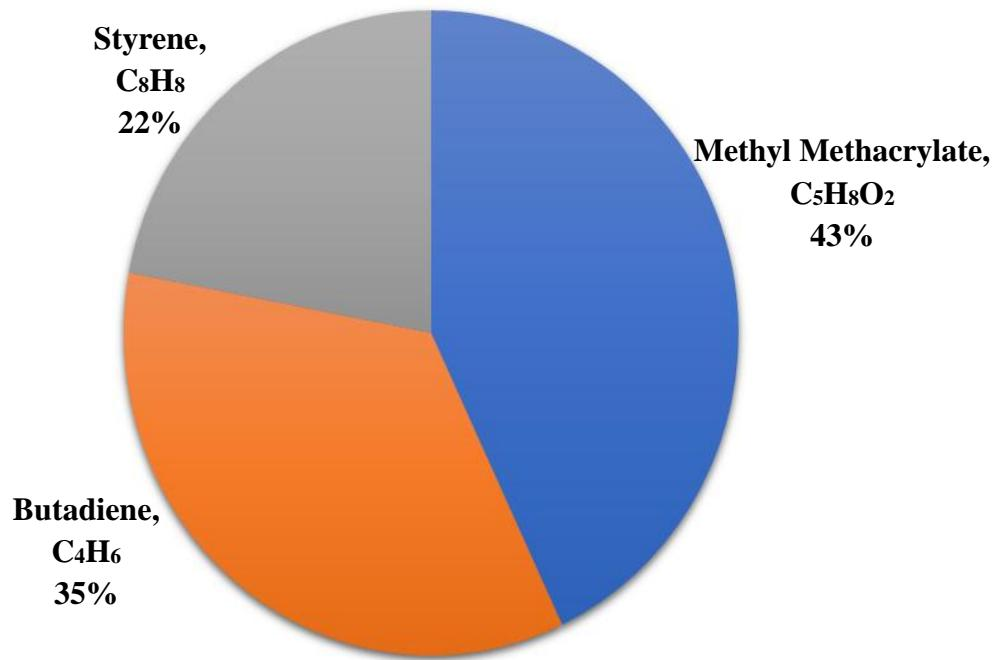

Figure 1c(ii): Formulation for MMBS plastic
- ii. Based on the research, the formulation to produce MMBS plastic is shown in Figure 1c(ii). Calculate the mole fraction of each component in this material.